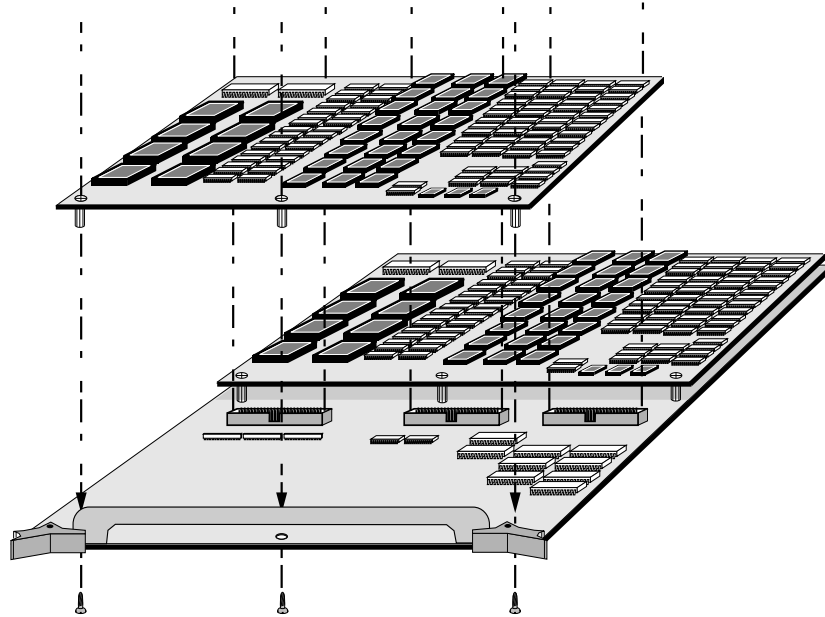

Figure 2-18. Typical Option Mezzanine Installation
Some options require a mezzanine installation. Figure 2-18 illustrates a typical mezzanine installation.
2. Carefully align the connectors and mounting posts on the mezzanine with those on the main module and seat the connectors. Secure the mezzanine with the screws provided. See Figure 2-18.
2. Carefully align the connectors and mounting posts on the mezzanine with those on the main module and seat the connectors. Secure the mezzanine with the screws provided. See Figure 2-18 on page 2-29.